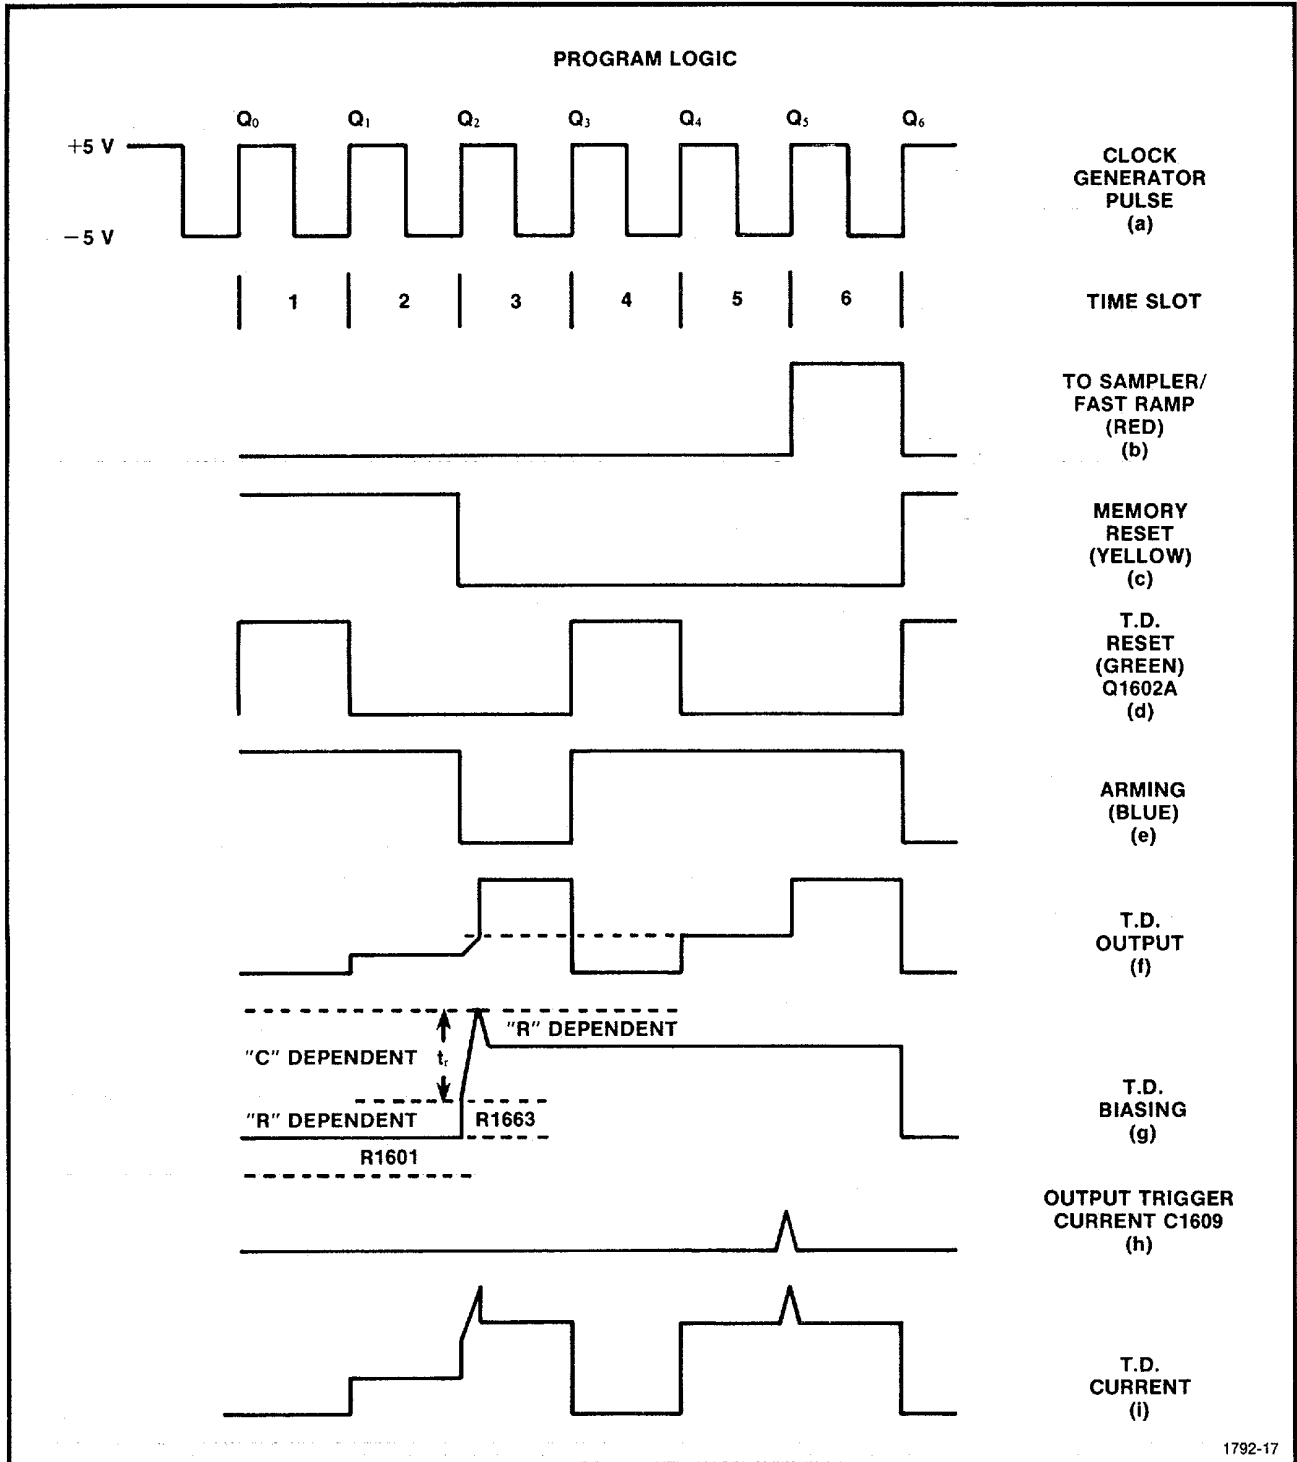

Figure 3-3. Program Logic Cycle.
The Pulser uses a two step process to generate a test pulse. Two steps are used to automatically bias the tunnel diode. The first step checks the peak current point of the tunnel diode then stores the firing voltage level on Memory Capacitor C1596. The second step uses the voltage stored on C1596 and an additional pulse (TD TRIGGER) to fire the tunnel diode and transmit the test pulse to the CABLE connector. This peak current check is performed for each Programming cycle. Thus, the automatic bias corrects for tunnel diode aging, thermal effects, and loading variations. Biasing action on the tunnel diode during each time slot is as shown in Fig. 3-3 and described as follows:
**Logic Programmer.** The Logic Programmer provides the needed logic sequence to allow automatic tunnel diode biasing and sampler synchronization. It consists of a divide-by-six counter, U1569, and gates U1575C, U1575D, and U1671. A cycle is completed after every six clock inputs (Fig. 3-3).  $\overline{Q1}$  starts going high at the start of the clock pulse train and remains high for three clock pulses, then goes low for the next three clock pulses.